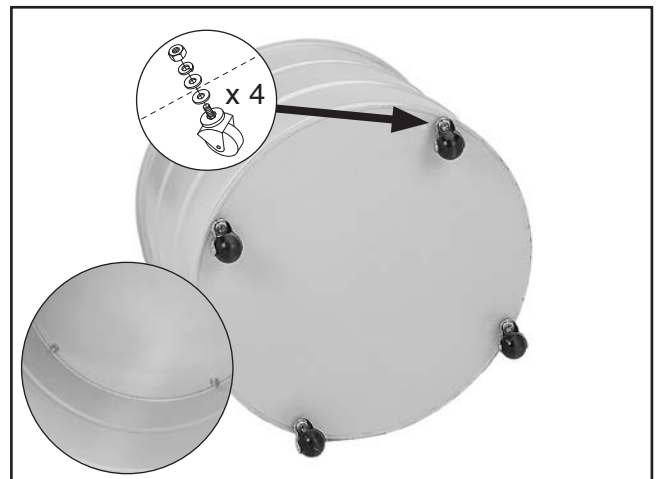

Figure 27. Casters attached to lower collection drum.
24. Attach casters to bottom of lower collection drum, as shown in **Figure 27**, using (4) $\frac{3}{8}$ "-16 hex nuts, (8) $\frac{3}{8}$ " flat washers, and (4) $\frac{3}{8}$ " lock washers included in box with casters.